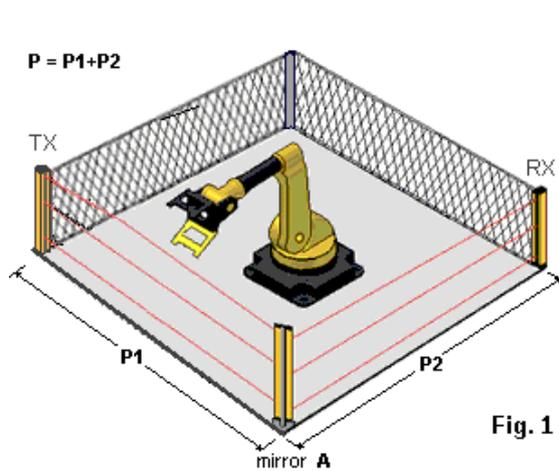

Fig. 1
- Protection to “ L “ shape when the unit must protect 2 sides with the employ of 1 mirror as fig. 1
This solution allows to protect the 4 sides as in the previous case, but with the use of two mirrors and two light curtains. The alignment should be done as shown in the first reference (fig.1) but acting independently on two combinations of mirrors / barriers.